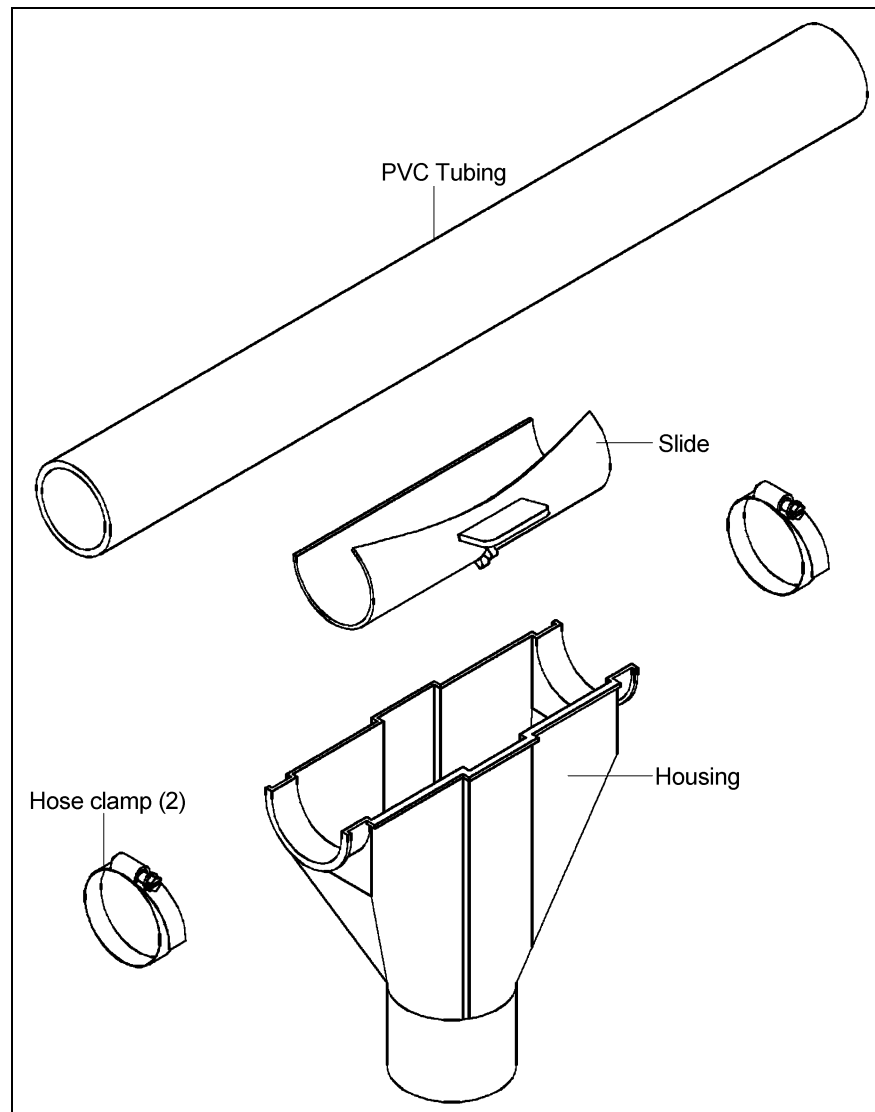

Figure 50 *Kwik-Attach Drop Kit Installation*
1. Snap the slide around the tube over the outlet hole. *(See Figure 50.)*
2. Fasten the housing to the tube using two (2) hose clamps. Make sure the outlet hole is in the middle of the housing.